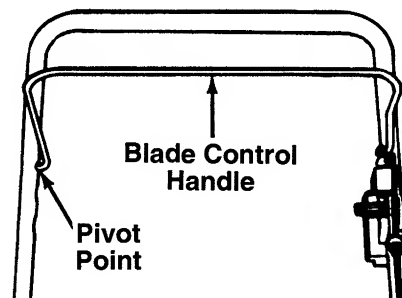

FIGURE 14.
**Blade Control**—Lubricate the pivot points on the blade control handle and the brake cable at least once a season with light oil. See figure 14. The blade control must operate freely in both directions.